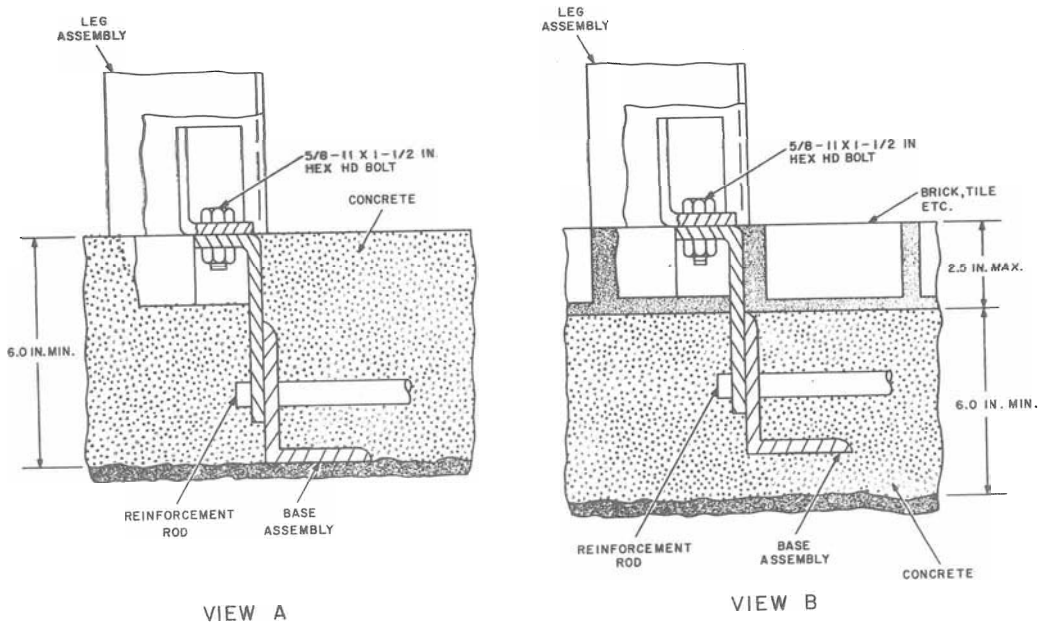

Fig. 15—Positioning Base Assembly in Concrete
**3.04** The base assembly must be embedded in 6 inches of concrete to provide a permanent foundation for the booth. Position assembly as shown in Fig. 15(A) if concrete serves as kiosk floor or as shown in Fig. 15(B) if some additional material (brick, tile, etc) serves as the floor.
- (2) Tamp 6 inches of cinders or gravel in the bottom of the form.
- (3) Position the two B-992047 bases per Fig. 15(A) or 15(B) and insert the four steel reinforcement rods (Fig. 6).
- (4) Using the six 5/8-11 by 1-1/2 inch bolts furnished with base assembly, install the KS-20255, List 12 mounting template on the two bases to ensure proper alignment.